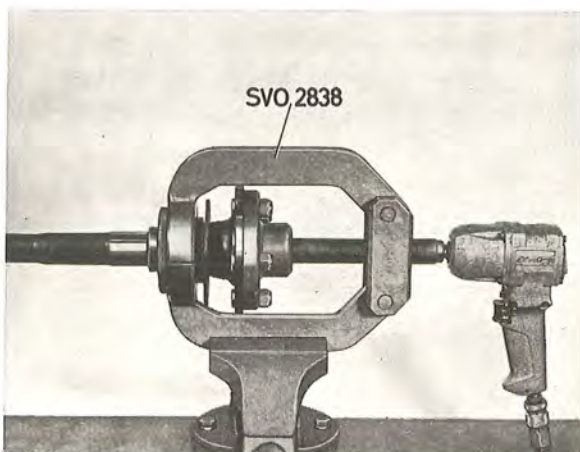

Fig. 4-68. Removing the drive shaft bearing
4. Secure press tool SVO 2838 in a vice. Secure the drive shaft to the spindle plate. Screw in the spindle so that the tool arms can be placed against the bearing, see Fig. 4-68. Screw out the spindle and press off the bearing and circlip. Remove the oil seal.